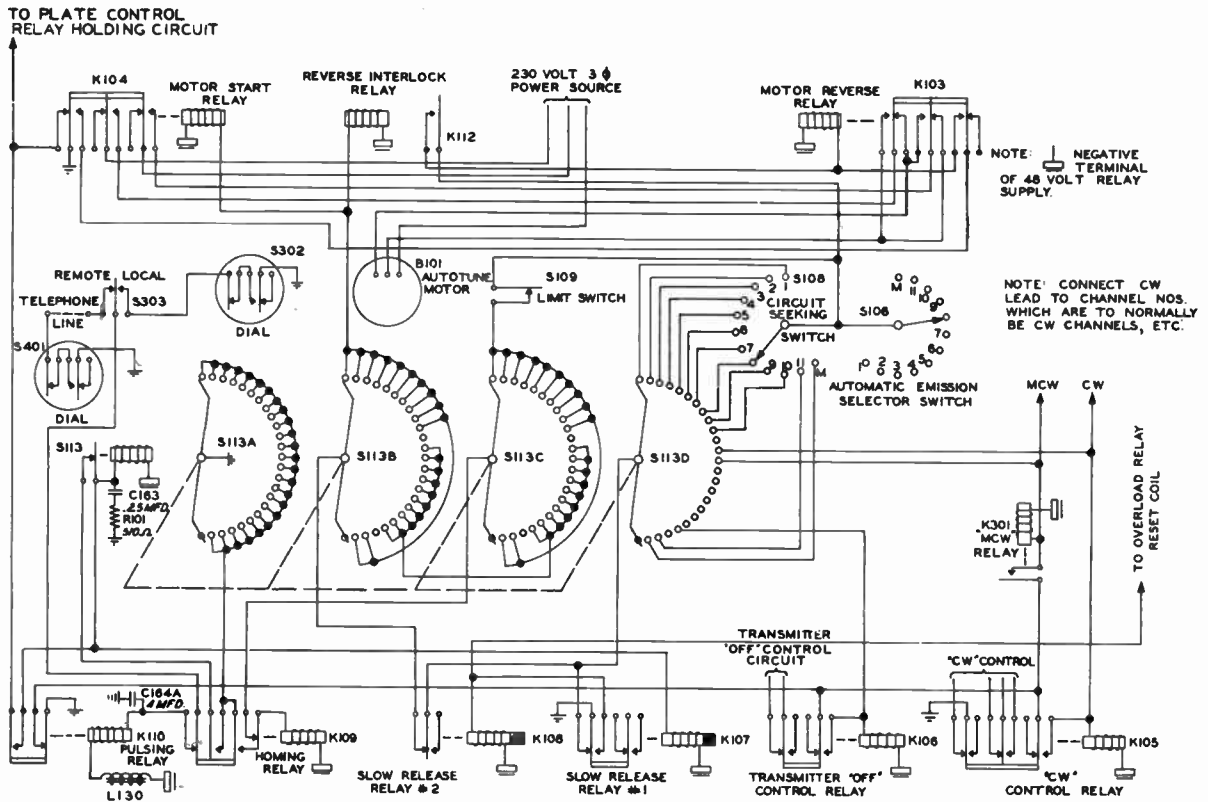
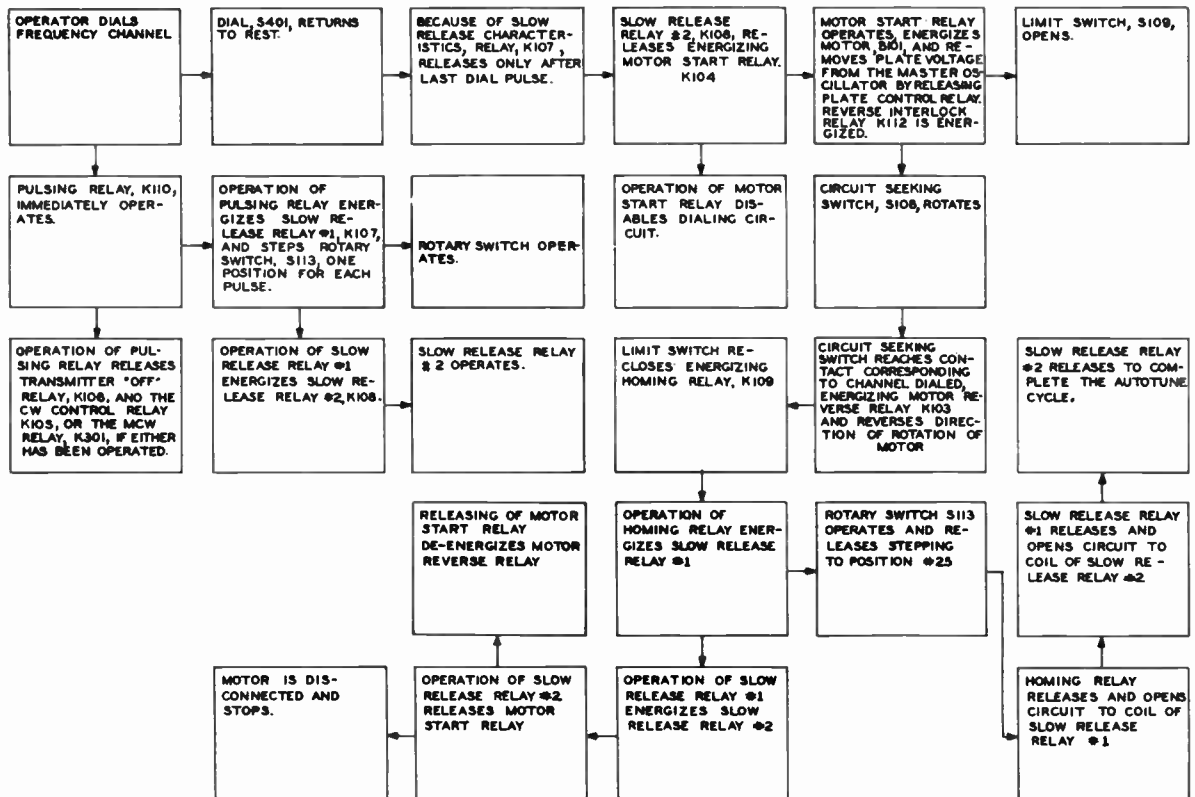

Fig. 7 Collins Autotune System - Electrical Details (Dwg. No. 500 4557 00C)
Fig. 8 Autotune Operation Sequence (Dwg. No. 500 4557 00C)
2.6.3. Sequence of Operation. Refer to Fig. 7 and Fig. 8. The Autotune system is controlled by a number of interlocking relays. The sequence of operation of these relays must be preserved in order to accomplish the desired results. A step-by-step description of the operation of the control circuits is outlined below: